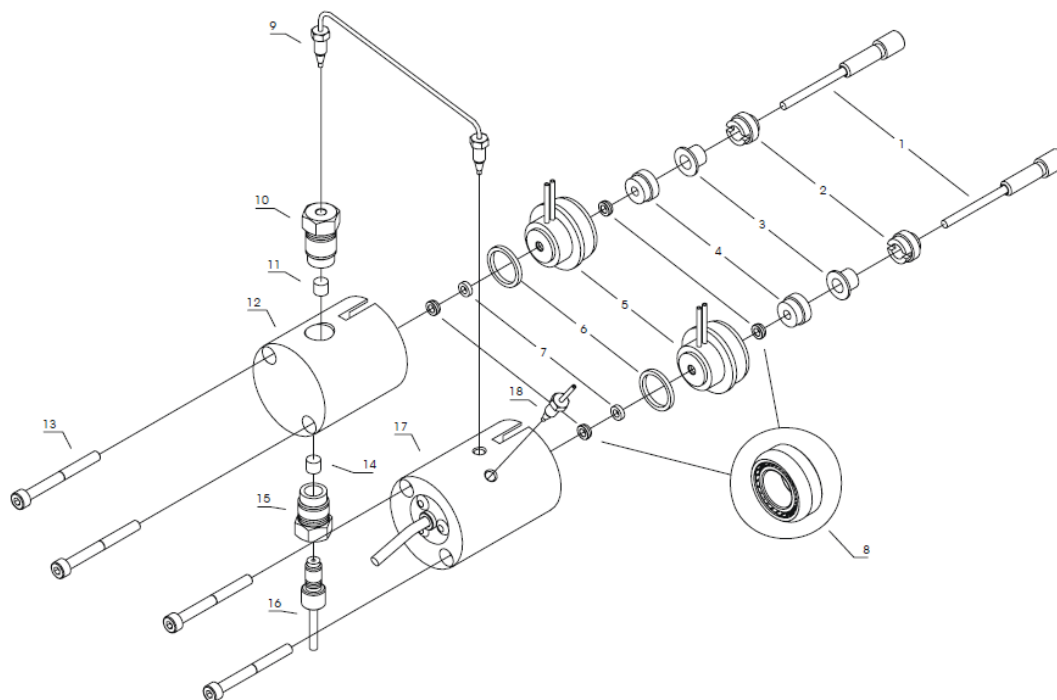

Figure 5. Fluid system of the P680 HPLC pump (See Table 2 for the description of each part).
- 8.7.1.3. Disconnect all fluid connections from the pump heads (See Figure 5).